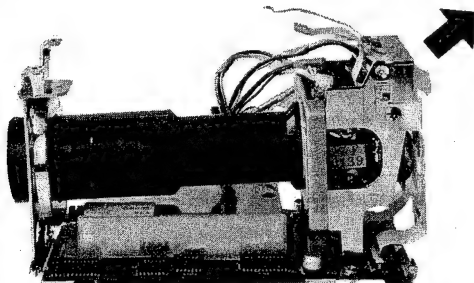

Fig. 1-5-4
7. Slide the optical block assembly to the rear as shown in Fig.1-5-4.